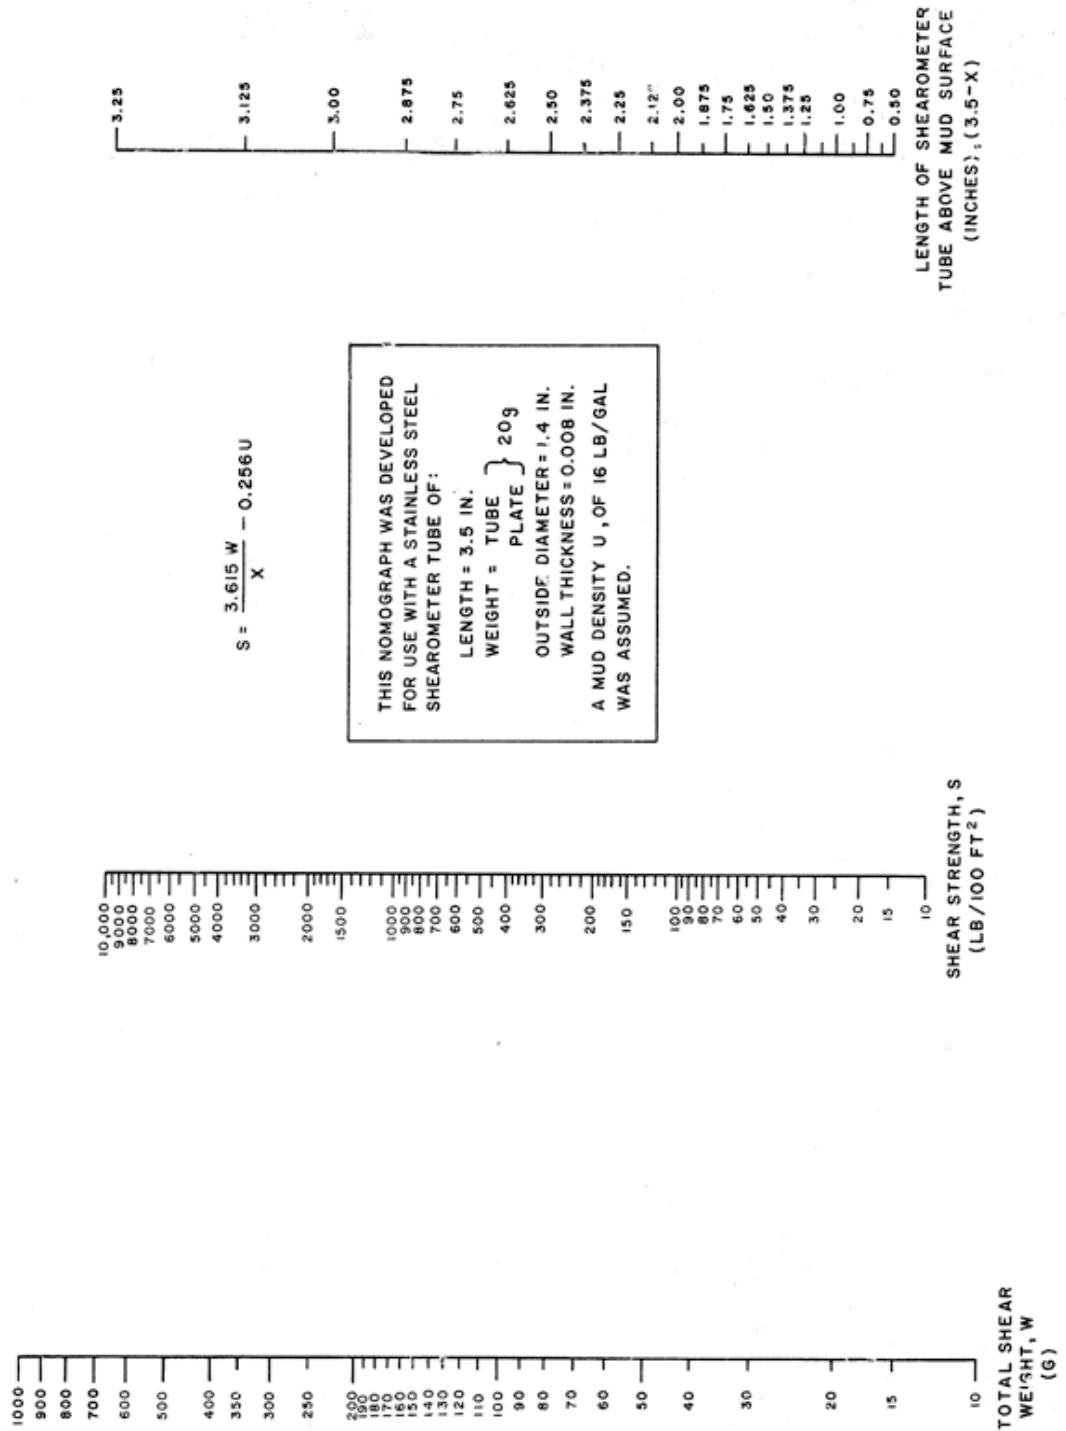

Figure 6-2 Nomograph for Calculating Shear Strength
7. For a 16 lb/gal sample, you can use the nomograph shown in Figure 6-2.